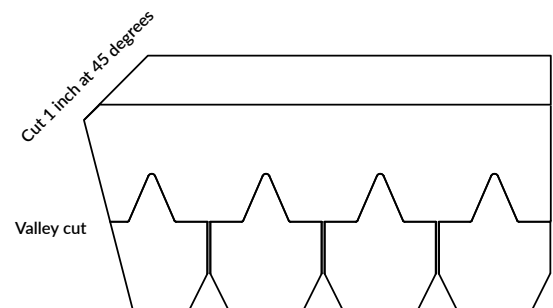

Figure 8
F-Wave recommends the use of an open valley method with a "W" style metal. Alternatively, F-Wave recommends the use of a tile/slate style closed valley method with a "W" style metal. For alternative valley installation methods, please visit f-wave.com and review our latest technical bulletin. It is important to note that all valley flashings should be in place before shingles are installed near the valleys. For application, start with a layer of a minimum of 36 inches (915mm) wide smooth-surface, non-granulated, self-adhering waterproofing membrane and apply directly to the roof deck. Next, the valley metal should be installed over self-adhering waterproofing membrane. Cut the top corner of the shingle going into the valley at a 1 inch (25mm) 45° angle. See **Figure 8**.
- Apply the first course of shingles along the eave until it meets the center of the valley. Trim the valley shingle so that it matches the chalk line and also has a 1 inch (25mm) 45° angle cut from the top of the shingle. See **Figure 8**.